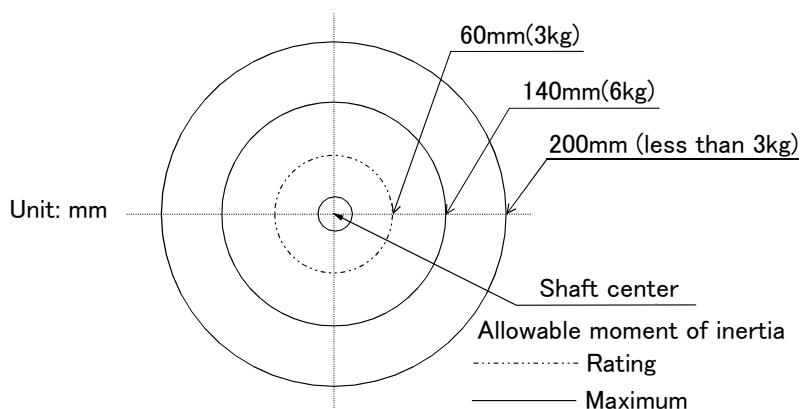
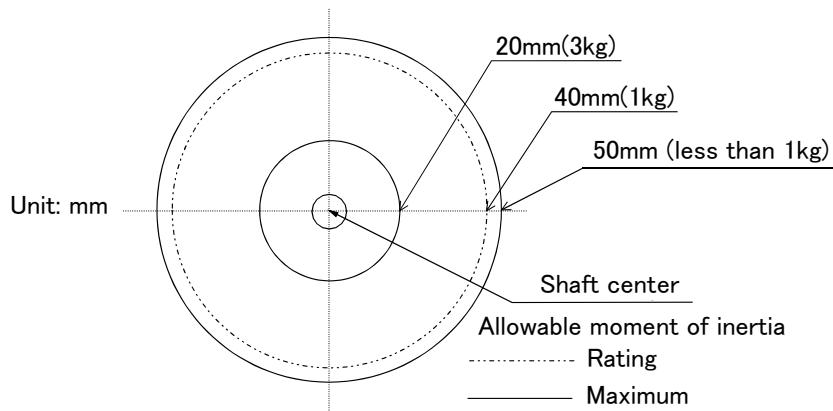

Fig.2-3 : Position of center of gravity for loads (for loads with comparatively small volume): RH-6FH series
Fig.2-6 : Position of center of gravity for loads (for loads with comparatively small volume): RH-3FHR series
- (1) The tooling should have the value less or equal than the smaller of the allowable moment of inertia found in Page 15, "2.1.1 Basic specifications".
- (2) Fig. 2-3 to Fig. 2-6 shows the distribution dimensions for the center of gravity in the case where the volume of the load is relatively small. Use this figure as a reference when designing the tooling.
Please use the robot in the allowable moment of inertia of maximum moment of inertia shown in Fig. 2-3 to Fig. 2-6.